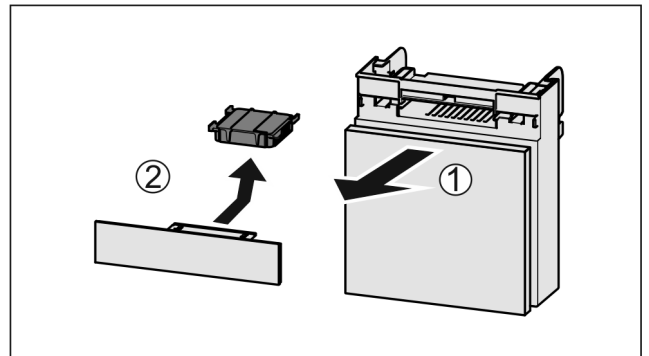

Fig. 154
- Pull out the compartment Fig. 154 (1).
- Remove the carbon filter Fig. 154 (2).